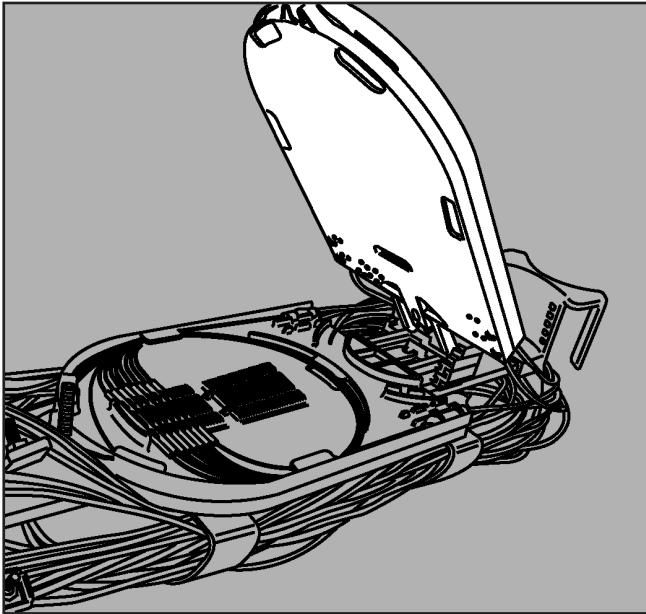

Figure 26
26. Simply raise, slide, and lock the stacked tray in one continuous upward - backward movement until the desired (horizontal) tray has been reached. (Figure 26)